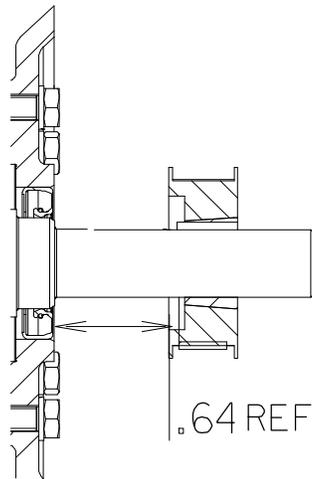

Figure 8. Drive Sprocket Positioning
Install the key (50) in the shaft keyway, making sure to leave room in the keyway for the drive key (47). Install the sprocket (48) and bushing (49) on the shaft to the dimension shown in Figure 8.